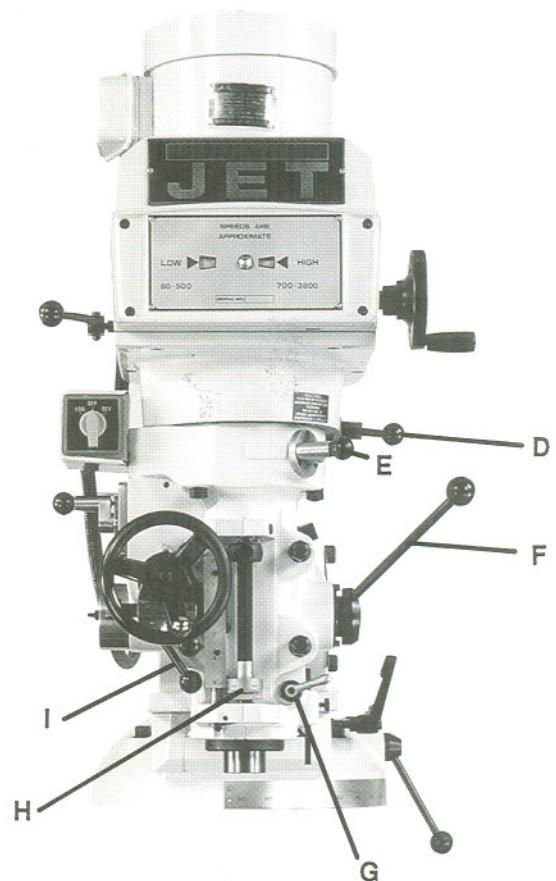

Fig.5
- D. **High-Neutral-Low Lever** (D, Fig. 5) - located on the right side of the head. Upper position is high speed (direct drive). Middle position is neutral. Lower position is low speed (back gear).
- E. **Power Feed Transmission Engagement Crank** (E, Fig. 5) - located on right side of head. When lever is in the right hole, the power feed worm gear is disengaged. To engage power feed, pull knob out and move lever around to opposite hole. Engage pin in hole.
- F. **Quill Feed Handle** (F, Fig. 5) - located on right side of head. Rotate clockwise to lower spindle. Return spring will retract the spindle automatically once the handle is released.
- G. **Quill Lock** (G, Fig. 5) - located on the right side of the head. Rotate the handle clockwise to lock the quill in a desired position. Rotate the handle counter-clockwise to release.
- H. **Micrometer Adjusting Nut** (H, Fig. 5), - located on the front of the head. Use for setting specific spindle depth.
- I. **Feed Control Lever** (I, Fig. 5) - located on the left side of the head. Engages overload clutch on pinion shaft when positioned to the left. Stays engaged until quill stop comes in contact